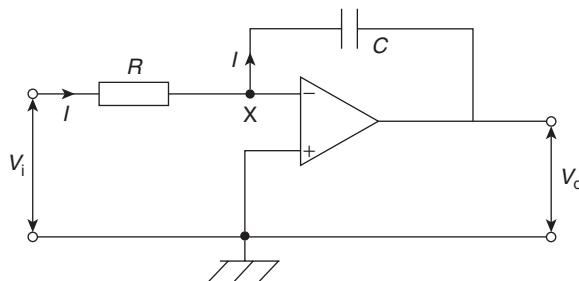

Figure 19.15
The circuit for the op amp integrator shown in Fig. 19.15 is the same as for the op amp inverting amplifier shown in Fig. 19.5, but feedback occurs via a capacitor C , rather than via a resistor.
Since the inverting (−) input is used in Fig. 19.15, V_o is negative if V_i is positive, and vice versa, hence the negative sign in equation (9).
Since X is a virtual earth in Fig. 19.15, i.e. at 0 V, the voltage across R is V_i and that across C is V_o . Assuming again that none of the input current I enters the op amp inverting (−) input, then all of current I flows through C and charges it up. If V_i is constant, I will be a constant value given by $I = V_i/R$. Capacitor C therefore charges at a constant rate and the potential of the output side of C ($= V_o$, since its input side is zero) charges so that the feedback path absorbs I . If Q is the charge on C at time t and the p.d. across it (i.e. the output voltage) changes from 0 to V_o in that time then: